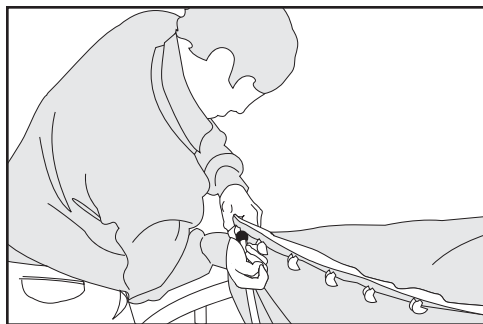

Figure 3: Preferred rod bending technique
1. To release each rod, push the clip lever towards the mat centre, and hold (Figures 1 and 2). Then push the ball end of the rod towards the mat centre to disengage it from the socket (Figure 3).